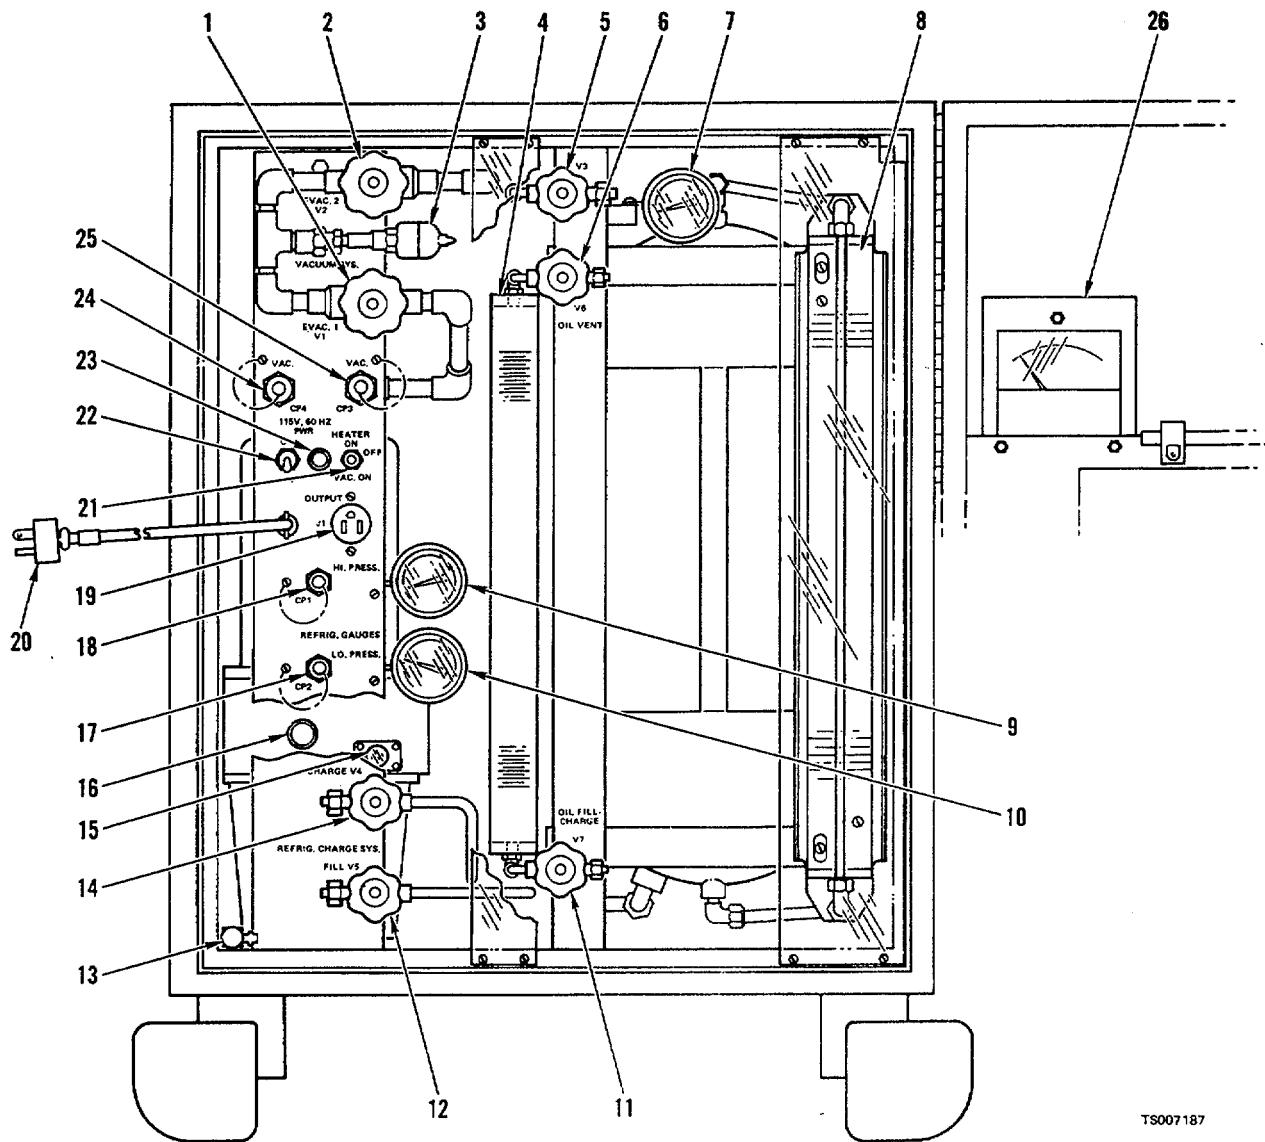
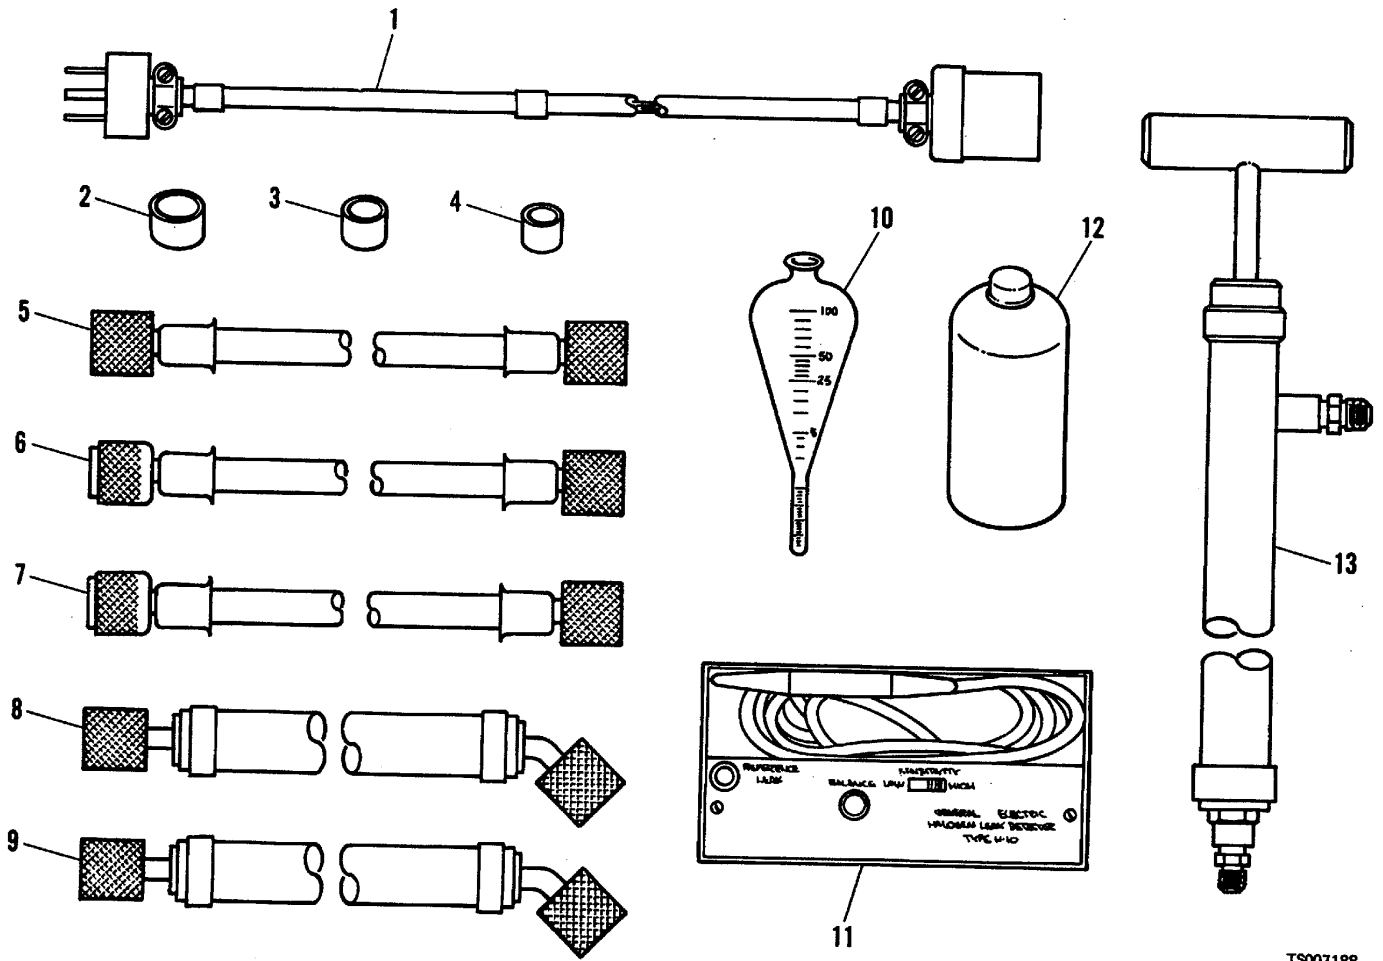

Figure 2-3. Controls, indicators, and connectors
Figure 2-4 Auxiliary equipment
2-2. Preliminary Operating Procedures (See fig. 2-3 and table 2-1.)
Since there are five basic modes of operation of the service unit and each modes is not necessarily dependent on the others, operating instructions for each mode are presented separately. See plate (182, fig. 5-2) for operating instructions and figures 2-1 and 2-2 for electrical and fluid schematics. See figure 2-3 for controls, indicators, and connections and table 2-1 for their functions
a. Vent reservoir by uncapping and opening valves (5, 12, 14, fig. 2-3).
(1) Cap union (25).
(2) Connect hose assembly (8, fig. 2-4) with gaskets (2, 3) between union (24, fig. 2-3) and valve (5).
(3) Open valves (1, 2).
(4) Close and cap valves (12, 14).
(5) Set circuit breaker (22) to ON and switch (21) to VAC ON. Evacuate system to 200 microns as indicated on gage (26).
(6) Close valve (5) and set switch (21) to OFF.
d. Remove hose assembly between union (24) and valve (5), and remove cap from valve (12).
e. Loosely connect hose assembly (5, fig. 2-4) with gaskets (3) to valve (12, fig. 2-3) and connect other end of hose assembly to the inverted refrigerant bottle.
Key to fig. 2-4:
- b. Connect refrigeration system charge valve to union (18), using hose assembly (6, fig. 2-4) with gaskets (3, 4).
- c. Connect leak detector (11) to connector (19, fig. 2-3).
- b. Connect hose assembly (8, fig. 2-4) with gaskets (2, 3) between refrigeration system receiver valve and valve (14, fig. 2-3).
- c. Connect hose assembly (9, fig. 2-4) with gaskets (2, 3) between refrigeration system suction valve and union (24, fig. 2-3).
- e. Set circuit breaker (22) to ON and switch (21) to VAC ON.
- a. Uncap and open valve (16).
- b. Open valves (1, 2), cap union (25), and uncap union (24).
- c. Connect hose assembly (6, fig. 2-4) between union (24, fig. 2-3) and valve (6), using a 1/2 X 3/8 inch reducer on union (24).
- d. Cap and close valve (11).
- e. Connect hose assembly (6, fig. 2-4) with gaskets (13, 4) between valve (11, fig. 2-3) and container filled with refrigeration oil.
- f. Set circuit breaker (22) to ON and switch (21) to VAC ON.
- g. Observe gage (26) until reading is slightly below 1000 microns; then close valve (1). Slowly open valve (11) and observe scale on beaker (4) until oil level reaches 1000 ML graduation. Close valves (6, 11).
- h. Set switch (21) and circuit breaker to OFF.
- i. Disconnect hose assemblies from oil container and union (24), and open valve (6).
- j. Loosely connect other end of hose assembly from valve (11) to refrigeration system receiver valve.
- k. Slowly open valve (11) until oil starts leaking from refrigeration system receiver valve, then tighten fitting on hose assembly and crack receiver valve.
- l. Open refrigeration system receiver valve and charge system with oil from beaker (4).
- m. Close refrigeration system receiver valve and valve (11). Remove hose assemblies and proceed to refrigerant charging procedure.